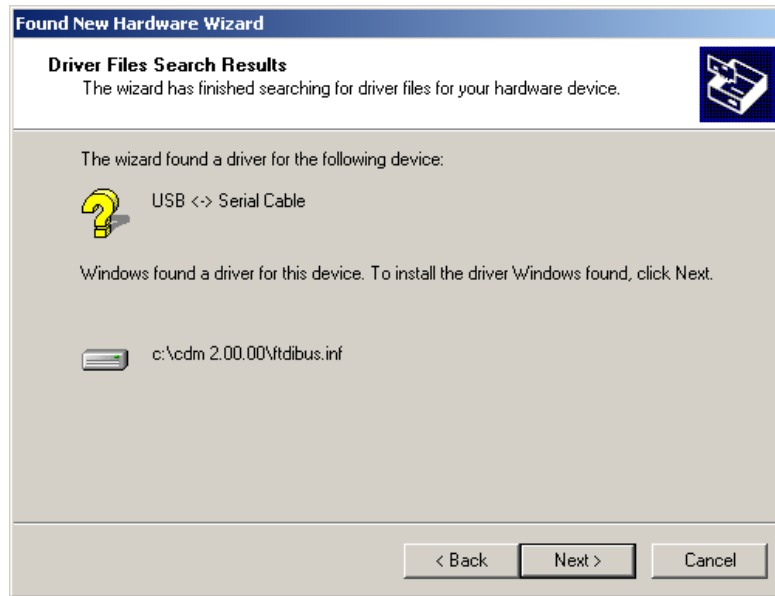

Figure 4. Driver Found Window
7. At the next “Found New Hardware Wizard” window (Figure 4), check the box next to "CD-ROM drives" and uncheck all others. Click next.
- Once Windows has found the required .INF driver file (Figure 4), click next to proceed.